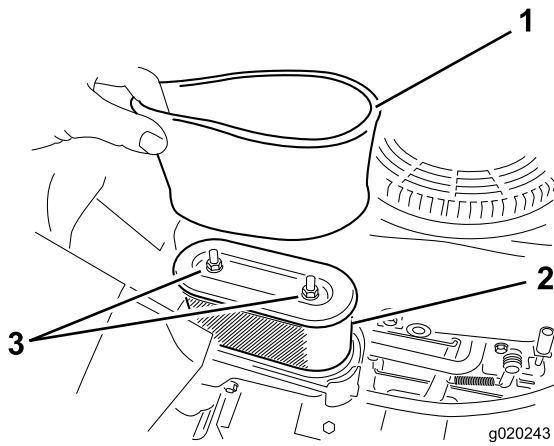

Figure 33
5. Carefully remove the foam and paper filter elements from the air-cleaner housing (Figure 33).
1. Install the foam filter onto the paper filter (Figure 33).